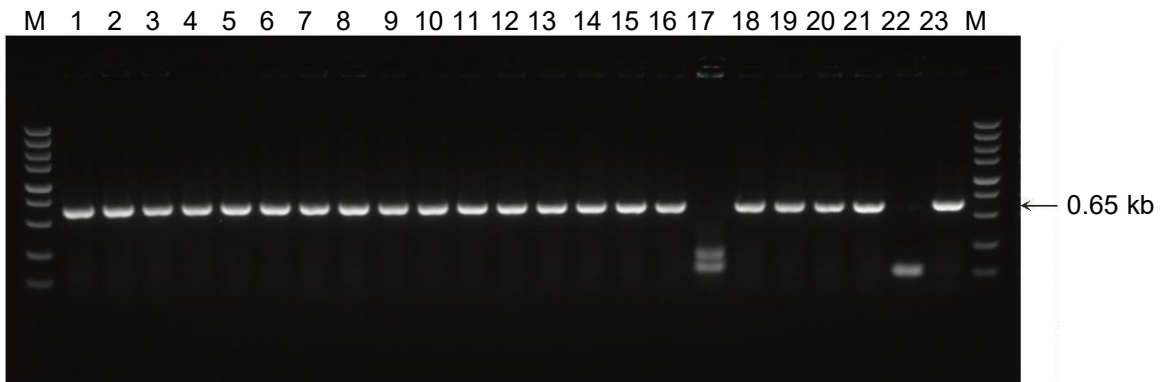

Fig 5. Agarose Gel Electrophoresis of Colony PCR Products
- ◇ Pick several mono-colonies from the plate of recombination reaction for colony PCR with at least one common sequencing primer of the vector. If the colony is positive, there should be a band which length is slightly bigger than that of insert (Fig 5).